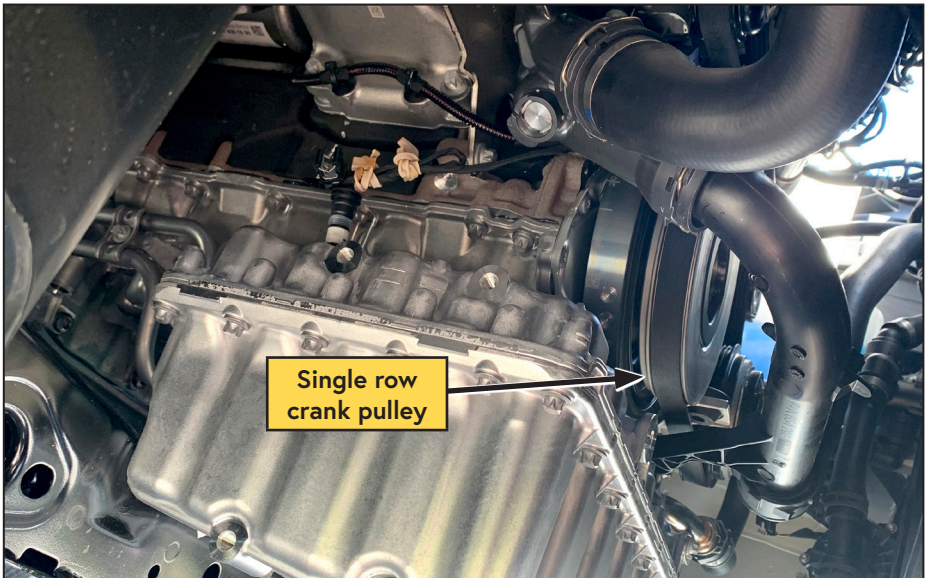

Figure 3 — Identify crank pulley
- Determine whether the vehicle is equipped with the dual row crank pulley (Figure 3).